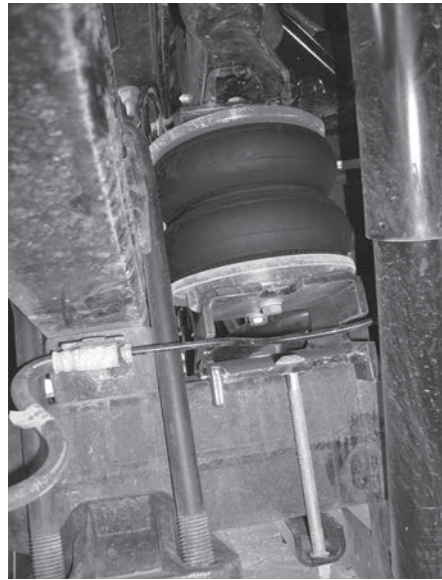

fig. 32
1. Figure 32 shows the rear view of the left (driver) side installation.